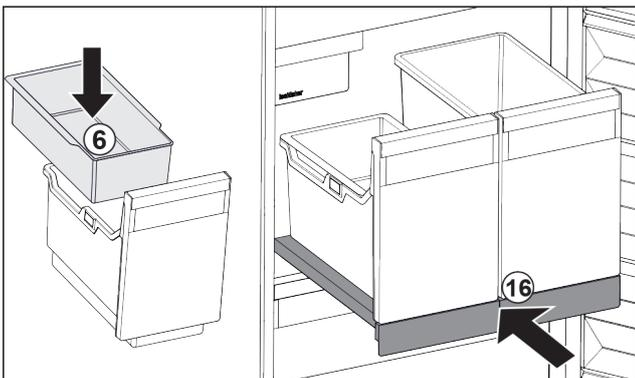

Fig. 25
- ▶ Insert hang-on tray Fig. 25 (6) for ice cubes.
- ▶ Slide in the pull-out board with (IceTower) container. Fig. 25 (16)